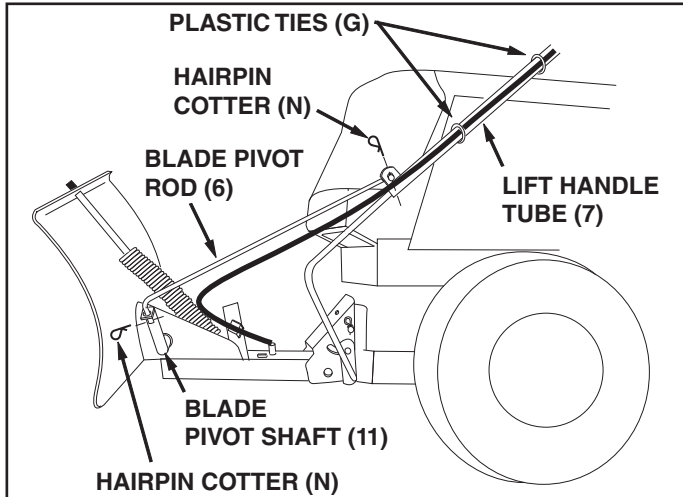

FIGURE 11
- STEP 11:** Place the end of the blade pivot rod (6) down through the blade pivot shaft (11). Attach the other end of the blade pivot rod (6) to the lift handle tube (7). Secure both ends with a hairpin cotter (N). See figure 11.
- Use two plastic ties (G) to hold the cable securely to the outside of the handle tube, away from the tractor to avoid direct heat from the tractor muffler. See figure 11.
6. Remove the hairpin cotter which fastens the blade pivot rod to the blade pivot shaft. See figure 11 on page 7.